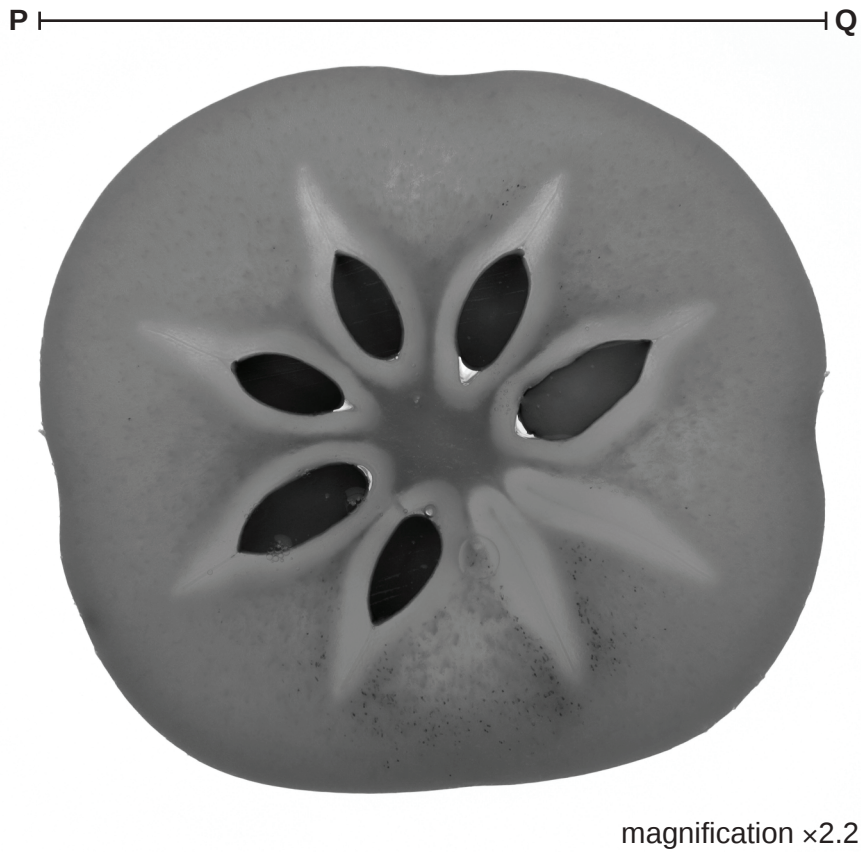

Fig. 3.1
- 3 (a) Fig. 3.1 is a photograph of a cross-section of a persimmon fruit.
- (i) Draw a large diagram of the persimmon fruit shown in Fig. 3.1.
- (ii) Line **PQ** on Fig. 3.1 represents the diameter of the persimmon fruit.
Measure the length of line **PQ** on Fig. 3.1.
$$\text{magnification} = \frac{\text{length of line PQ in Fig. 3.1}}{\text{actual diameter of the persimmon fruit}}$$